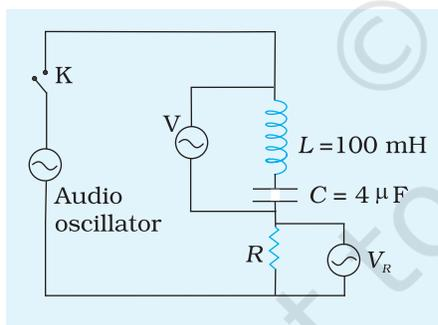

Fig. P 7.10 LCR series resonance circuit
1. Connect the circuit as shown in Fig. P 7.10. The resistor $R \sim 100\ \Omega$ is connected in series with L and C .